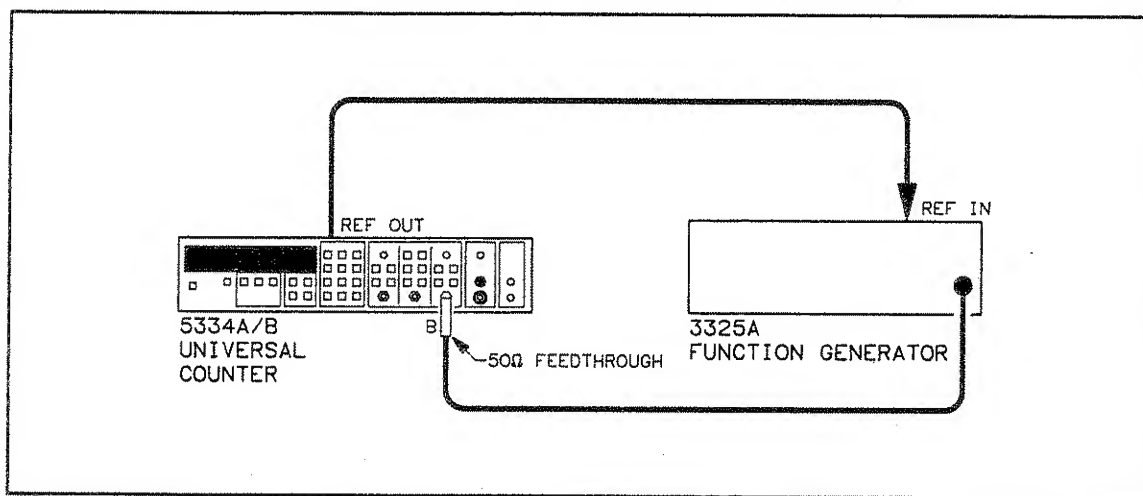

Figure 4-3. Channel B Frequency and Sensitivity Setup, 10 Hz-20 MHz
3. Connect the function generator signal to the HP 5334A/B Input B using a 50 Ohm feedthrough connector as shown in Figure 4-3.